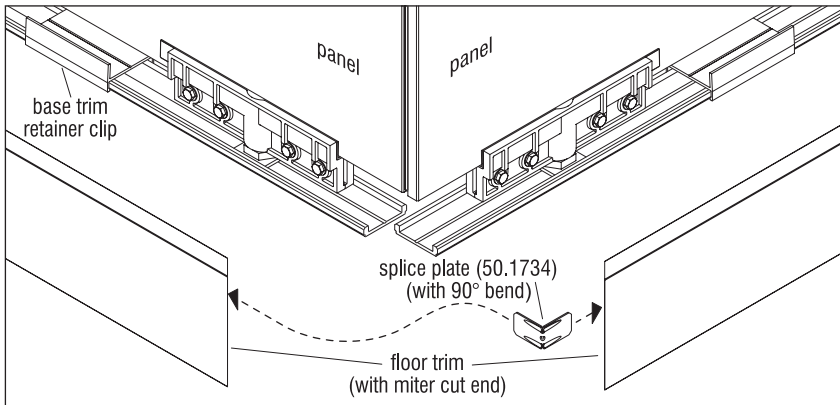

Figure 4 - Install Splice Plate
6. Slide the splice plate into one trim then slide the other trim into the splice. Adjust all pieces so that the corner gap is tight (Figures 4 & 5).